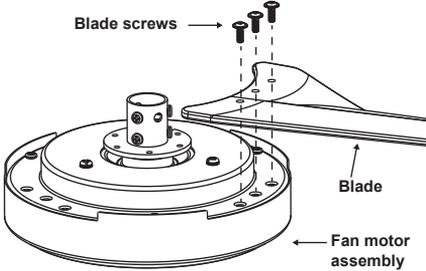

Figure 6
Step 2. Attach the blade to the fan motor assembly using three blade screws. Attach the other blades to the fan motor assembly. (Fig. 6)